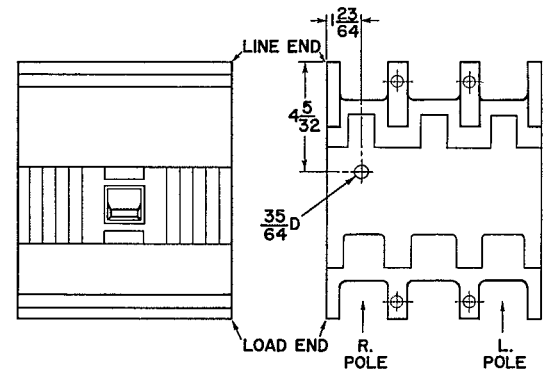

Fig. 1 J 600 circuit breaker
- Drill $\frac{3}{4}$ " diameter hole through rear of breaker cases (See Fig. 1). Note: Location of hole must be accurate to prevent damaging breaker mechanism.